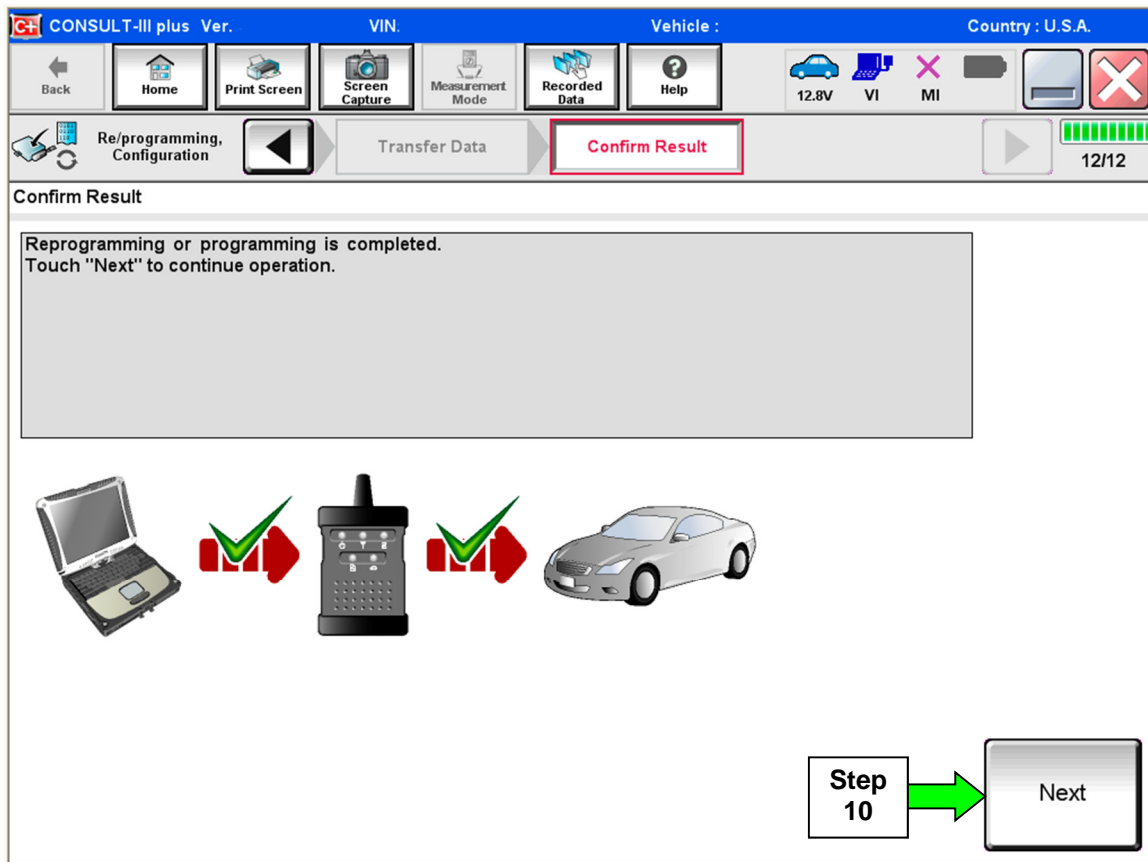

Figure 4
8. When the screen in Figure 4 displays, reprogramming is complete.
NOTE: If the screen in Figure 4 does not display (indicating that reprogramming did not complete), refer to the information on page 7.